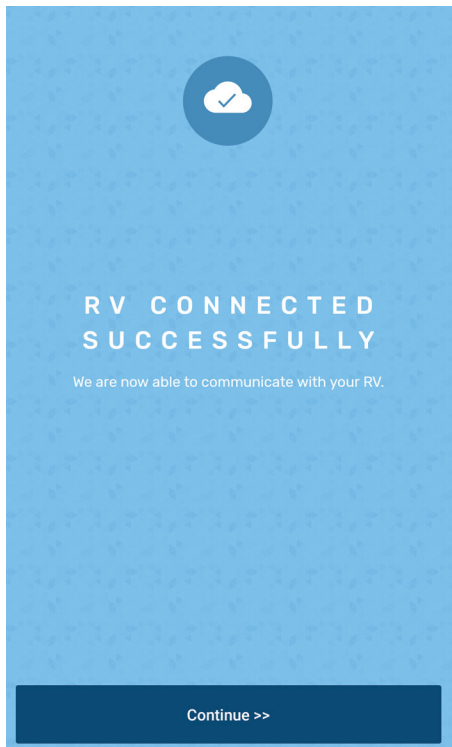

Fig.6
7. The screen will indicate the RV has connected successfully (**Fig.6**). Press “Continue” to proceed with setup.